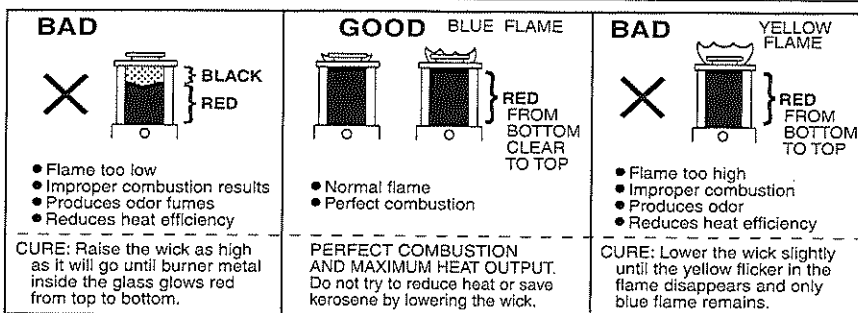

Fig. 15
If the ignition lever has been adjusted all the way up (wick height at minimum height) and the flame is still too high according to Fig. 15, shut off the heater and contact us at 877- Get HEAT (877-438-4328), or e-mail: getheat@sengokula.com. If you continue to use your heater with bad combustion, soot and/or Carbon Monoxide (CO) emissions will result.